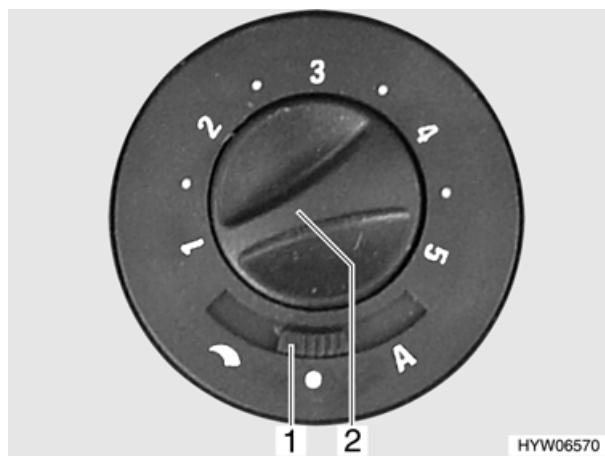
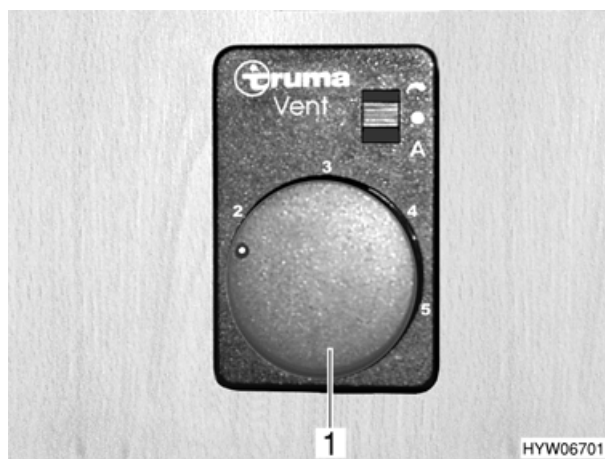

Fig. 71 Operating switch for circulation fan (variant 1)
Fig. 72 Operating switch for circulation fan (variant 2)
- Turn the knob (Fig. 71,2 or Fig. 72,1) to the required position of the circulating fan.